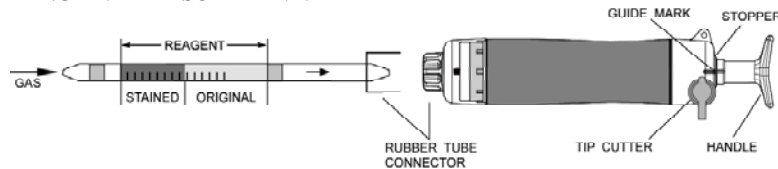

Fig.1
- ② Insert the detector tube into the aspirating pump securely as shown in Fig.1. (Arrow mark shall point to the pump.)
- ③ Align the guide marks on the handle and stopper of the aspirating pump.
- ④ Pull the pump handle at full stroke locked position and wait for 3 minutes or until the completion of sampling is confirmed with the flow indicator of the pump. (See descriptions about the flow indicator in the instruction manual of pump).
- ⑤ On completion of sampling, read the scale at the maximum point of the stained layer.